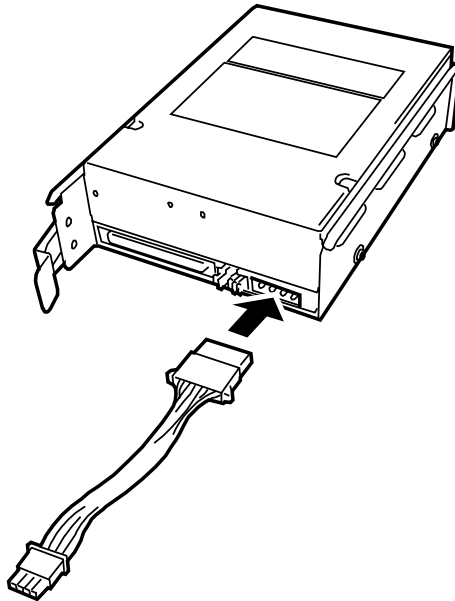

Figure 4-46. Connecting the Power Extension Cable
- 17.** Connect the included power extension cable to the power connector of the device. See Figure 4-46. This cable is shipped in the accessories box of the system.